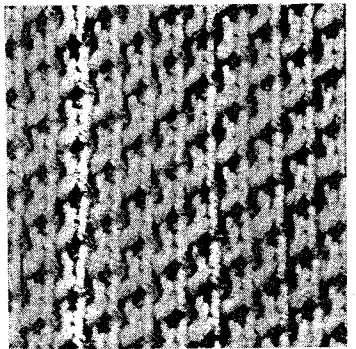

Fig. 89 A
- (1) HOLDING CAM LEVERS remain at the same position 1.
- (2) Using the needle pusher, bring the even needles forward to the Position "D".
- (3) Knit one row from right to left.
- (4) Using the straight edged needle pusher, push the selected needles back to the Position "B".
- Repeat Steps 1 & 2, then you can make the SEED STITCH as shown in Fig. 89 (A)